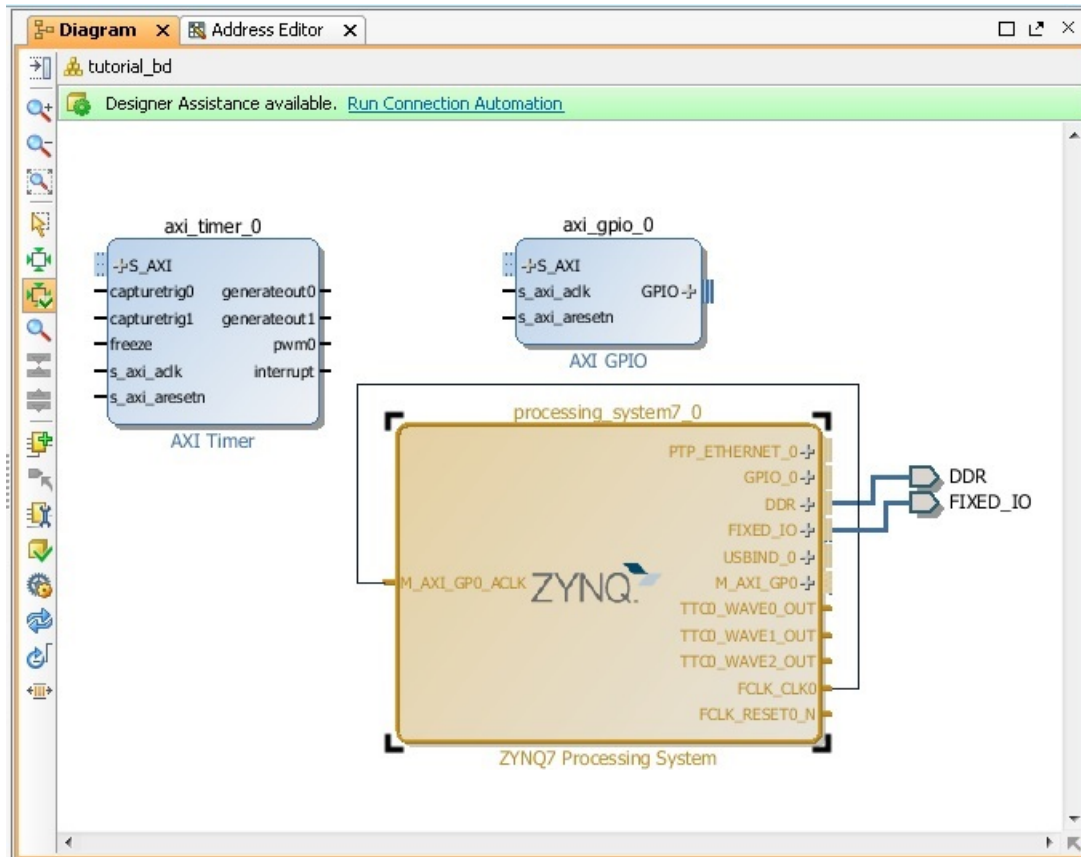

Figure 3-3: ZYNQ7 Processing System IP
14. Click **OK** to accept the changes to the ZYNQ7 Processing System IP. The Diagram looks like Figure 3-3, page 34.